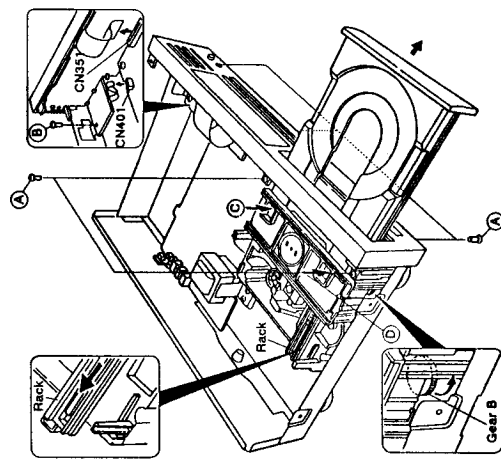

Fig. 2-2
- 2 Pull out the tray slowly by pushing the nail of the tray section front: two holes ① and ② of the clamping base ( Fig. 2-2 ).
- 1 Remove five screws ③ ( Upper side is two screws and under side is three screws. ) to the front panel.
- 2 Remove a screw ④ to the Headphone board assembly ( Fig. 2-2 ).
- 3 Disconnect two connectors CN351 and CN401 from the Mother board assembly ( Fig. 2-2 ).
- 1 Turn the gear B slowly in the direction of arrow by ① screwdriver with care not to damage the gear B ( Fig. 2-2 ).